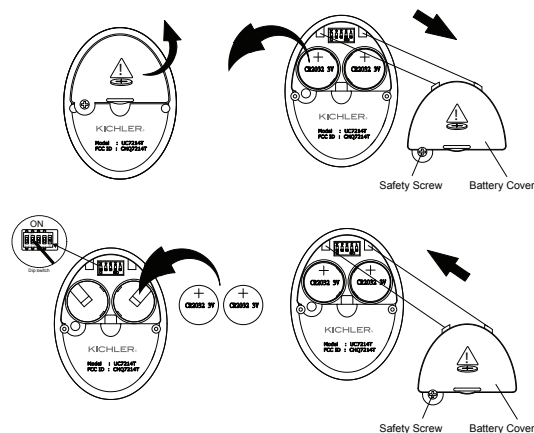

Fig. 22
Step 1. To remove or replace the batteries, loosen the safety screw and remove the battery cover from the back of the transmitter to access the battery compartment. (Fig. 22)
NOTE: If replacing batteries, make sure to install the new CR2032 3V batteries with the + side facing up. (Fig. 22)
Reinstall the battery cover to the back of the transmitter and tighten the safety screw. (Fig. 22)